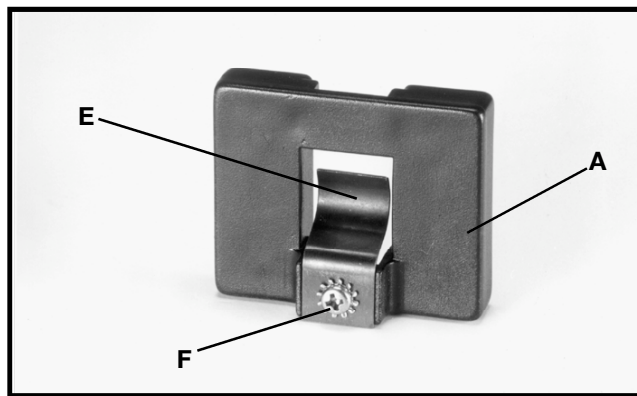
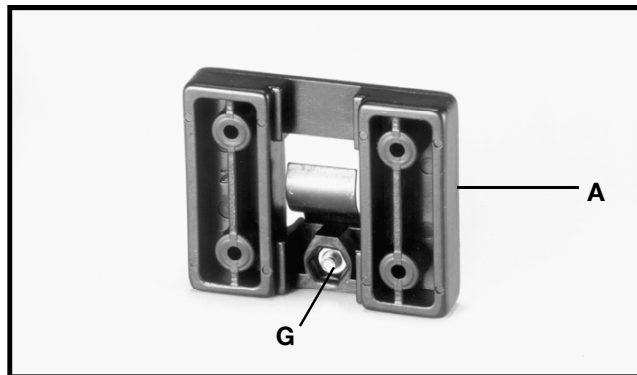

Fig. 24
Fig. 25
1. Assemble spring clip (E) Fig. 24, to the miter gage holder (A) as shown using a M4x.7x10mm pan head screw (F), 3/16" lockwasher and M4x.7 hex nut. **NOTE:** Hex nut (G) Fig. 25, will fit into the recess at the back of the miter gage holder (A) to keep spring clip (E) Fig. 24, secured to the miter gage holder.